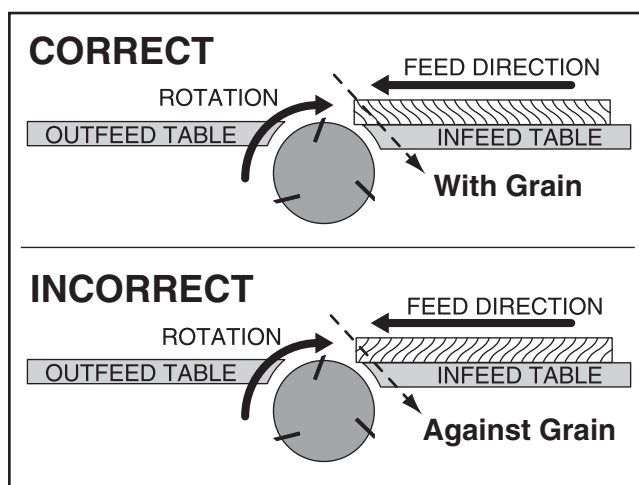

Figure 25. Correct and incorrect grain alignment with cutterhead.
- **Jointing and surface planing WITH the grain produces a better finish and is safer for the operator.** Cutting with the grain is described as feeding the stock on the jointer so the grain points down and toward you as viewed on the edge of the stock (**Figure 25**).